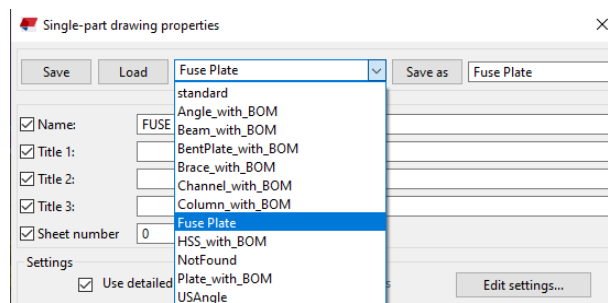

Figure 6-2. Fuse Plate Single Part Properties
- From the single part drawing properties dialog select **Fuse Plate** from the drop-down menu. Select **Load, Apply** and then **OK** (see Figure 6-2).